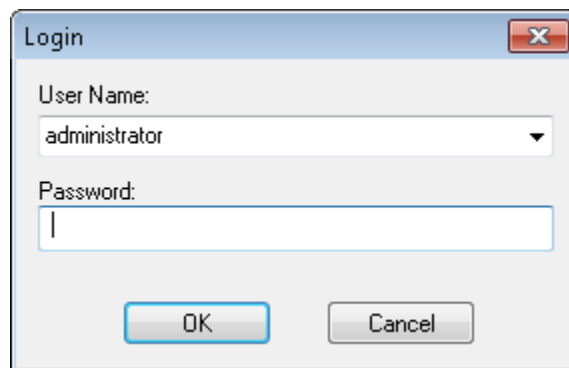

Figure 1. Login Dialog Box
- When the Login dialog box appears, select the default, administrator, from the **User Name** control and leave the **Password** textbox empty, as shown in Figure 1.